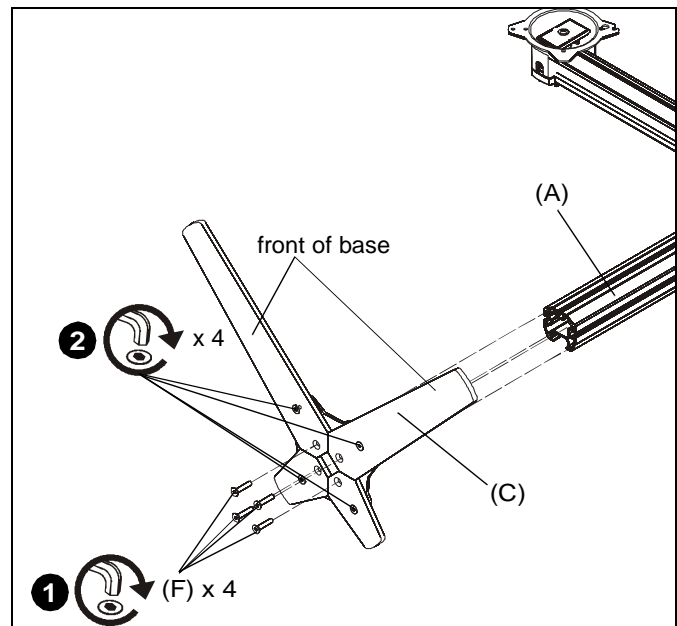

Figure 3
1. Slide array arm-right (W) between brackets at top of column assembly (A). (See Figure 3)
1. Use four 1/4-20 x 1 1/4" flat head cap screws (F) to secure table top base (C) to column assembly (A). (See Figure 3)
**NOTE:** Make sure front of base (long legs) is on the display side when attaching base to column. (See Figure 3)
2. Tighten four existing bolts holding stand to column. (See Figure 3)